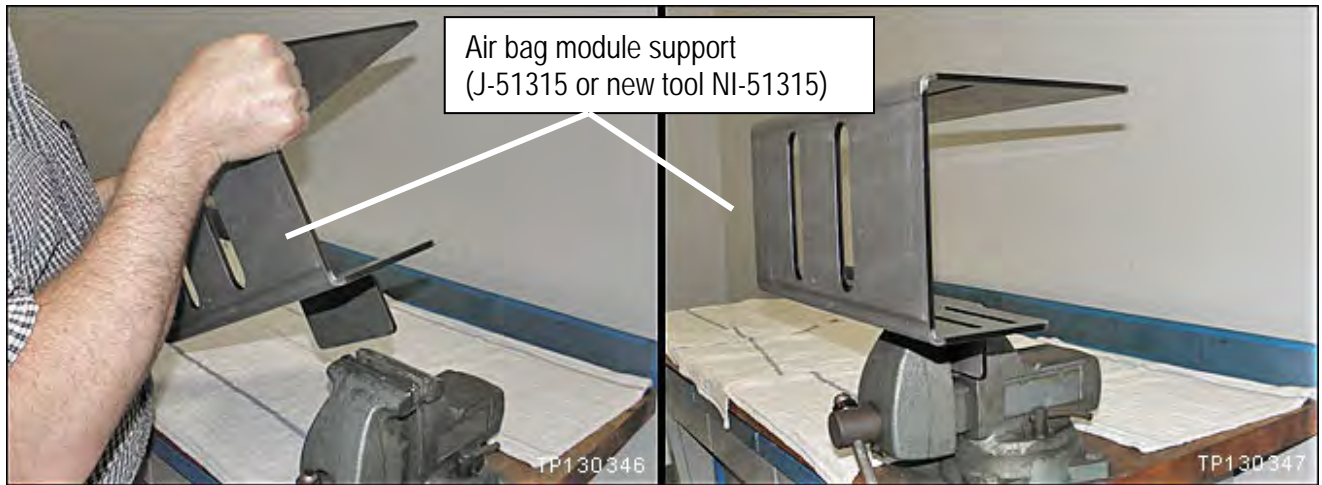

Figure 8
14. Securely mount the air bag module support (support) in a vise (Figure 8).